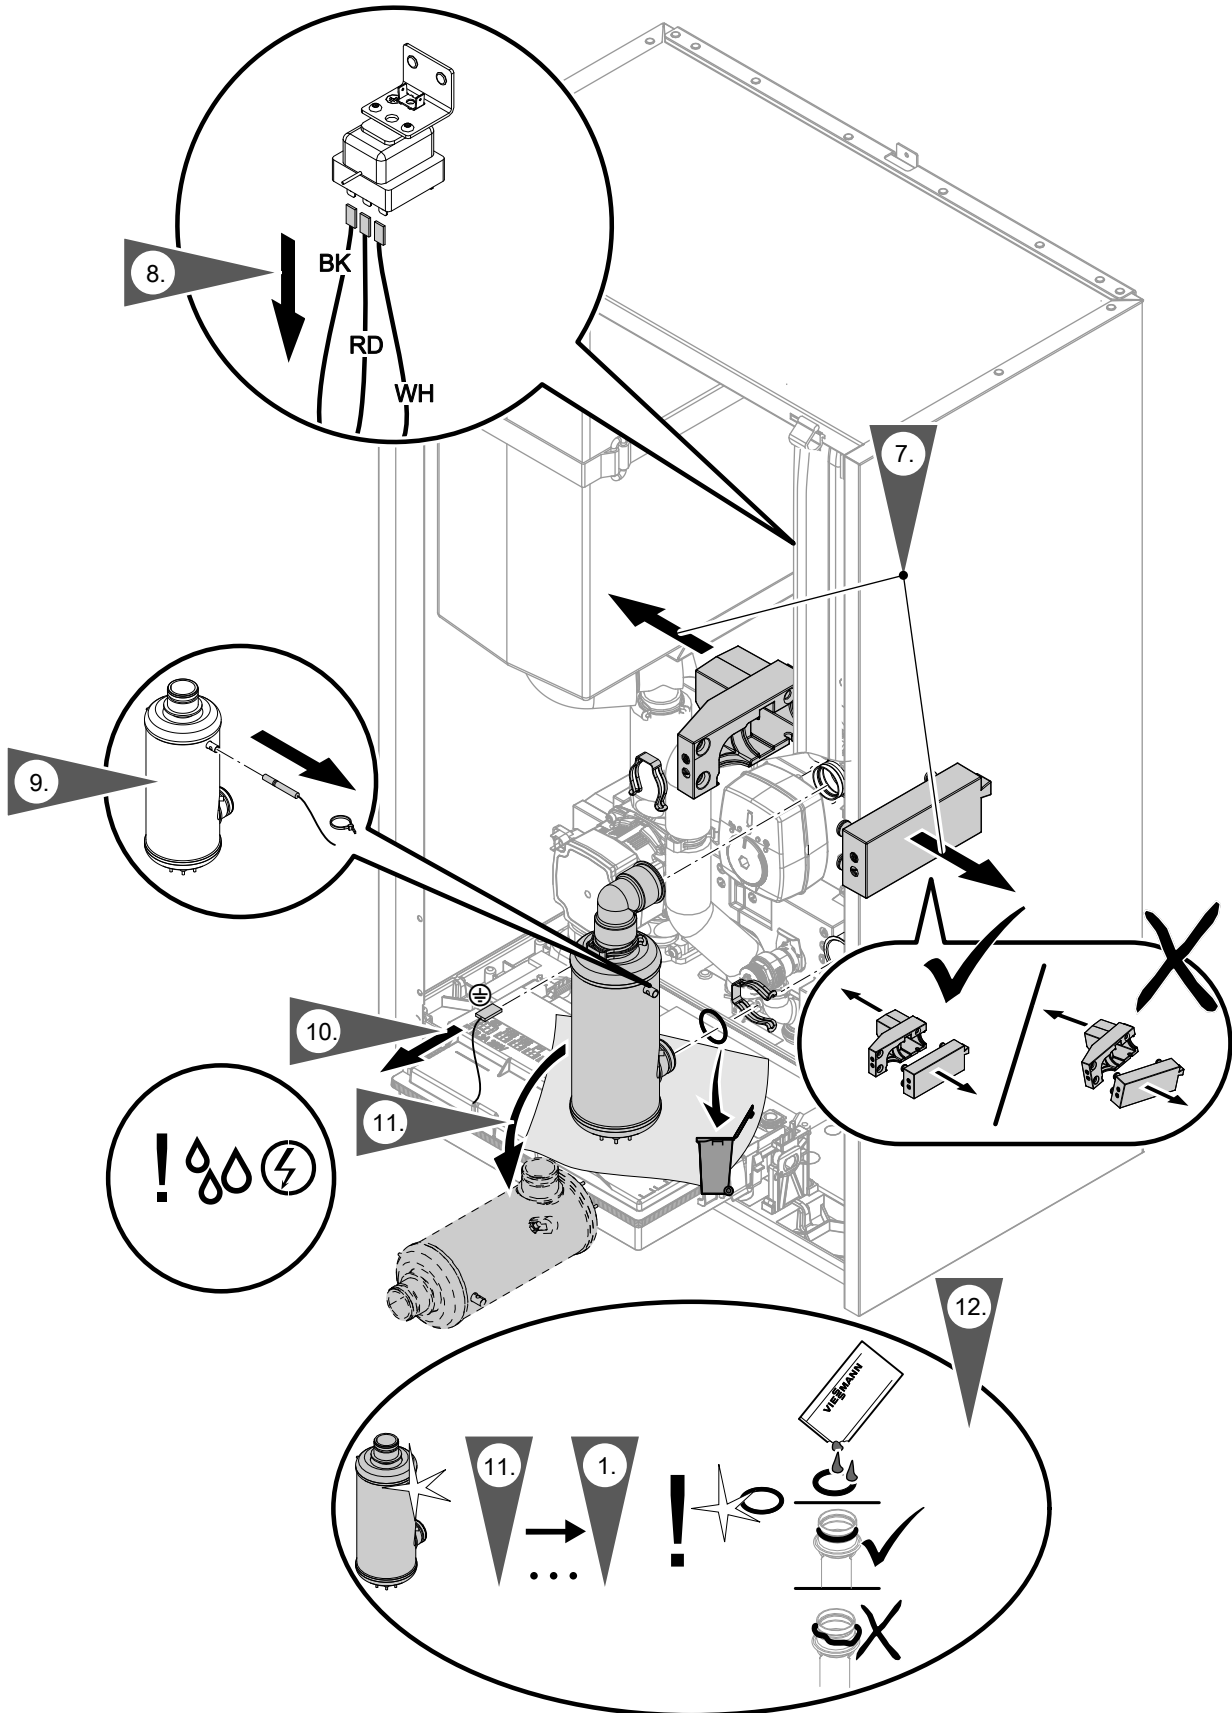

Fig. 90 Observe the colour coding of the core wires connected to the high limit safety cut-out (as per IEC 60757):
- Temperature sensor on the instantaneous heating water heater and electrical leads on the high limit safety cut-out: See Fig. 90.